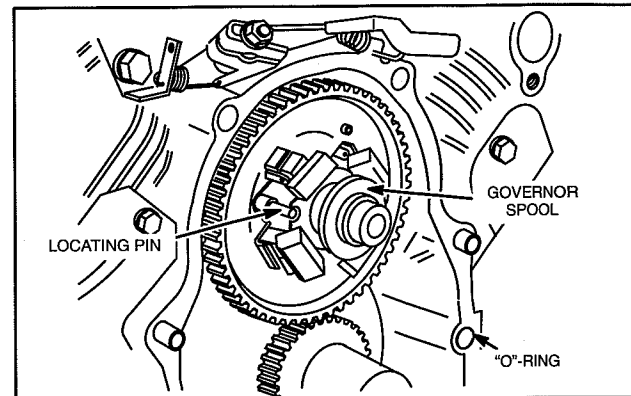

Fig. 13 – Install Governor Spool
1. Assemble governor spool to camshaft, Fig. 13.